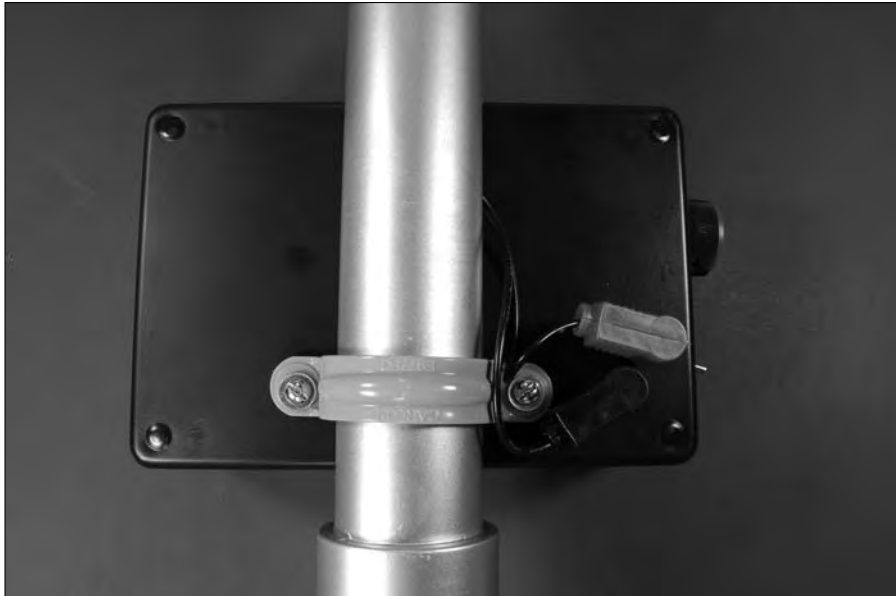

Figure 12-17:
Figure 12-17 shows the box attached to the handle.
13. **Plug the right-angle phono plugs into the phono jacks, as shown in Figure 12-17.**